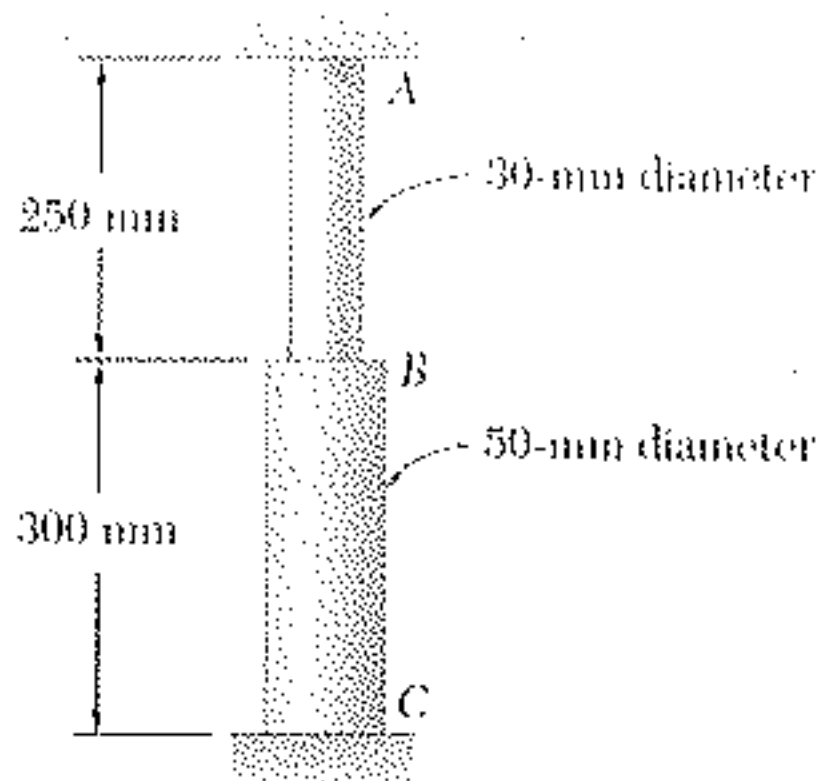

Figure 2
- A rod consisting of two cylindrical portions AB and BC is restrained at both ends shown in figure 2. Portion AB is made of steel ($E_s = 200 \text{ GPa}$, $\alpha_s = 11.7 \times 10^{-6} / ^\circ\text{C}$) and portion BC is made of brass ($E_b = 105 \text{ GPa}$, $\alpha_b = 20.9 \times 10^{-6} / ^\circ\text{C}$). Knowing that the rod is initially unstressed, determine the compressive force induced in ABC when there is a temperature rise of 50°C .